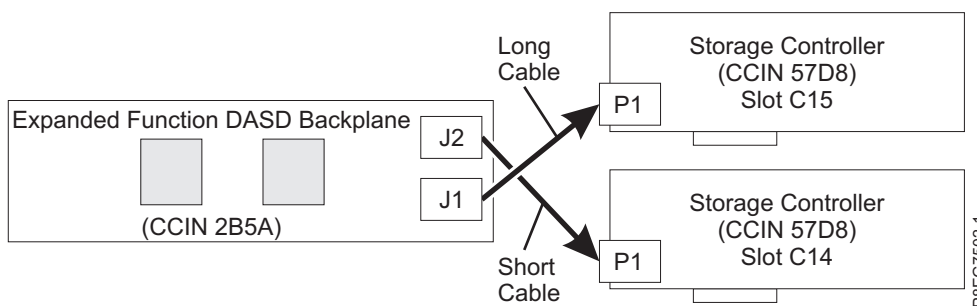

Figure 147. Reconnecting the SAS cable in an expanded function configuration
- The long SAS cable connects the lower disk drive backplane connector (J1) to the P1 connector on the SAS RAID internal adapter in slot P1-C15. See Figure 147.